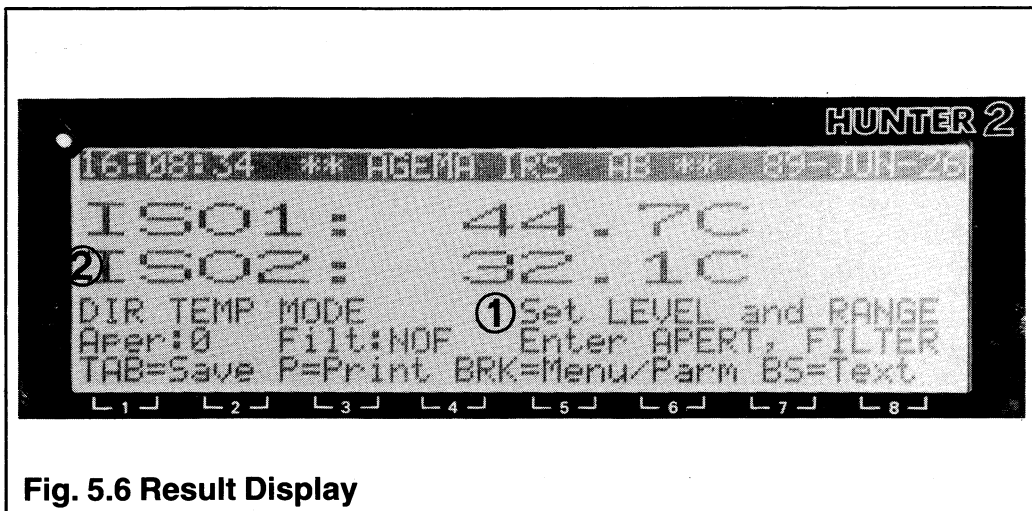

Fig. 5.6 Result Display
- (f) On this display the TAB (tabulate) key can be used to switch ISO 2 on and off ③
- (g) When the necessary parameter changes have been made, the MEASURING mode selected in sub para c is entered by pressing the BRK key. A typical example of the resulting display is shown in fig. 5.6.